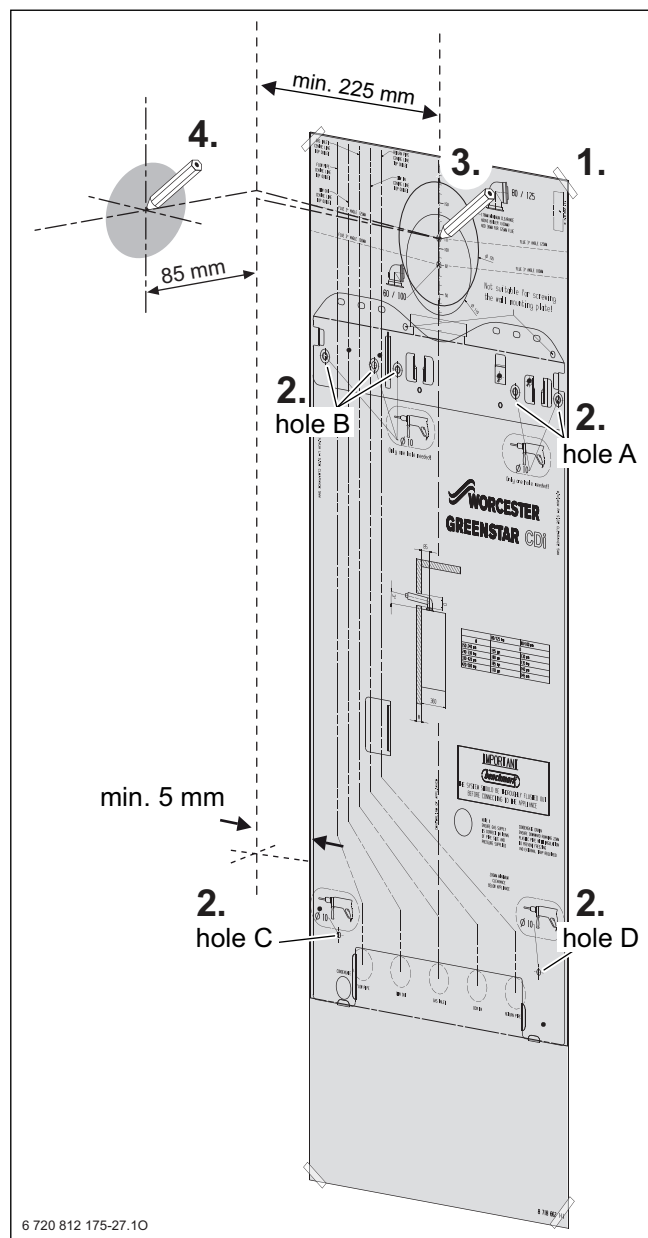

Fig. 24 Mounting template
- Fig. 24 shows the relative positions of the flue and the fixing of the wall mounting plate, the hanging bracket and pre-plumbing manifold.
- Follow the Fig. 24 to mark the centre of the flue for rear outlet (3) or for side outlet (4).